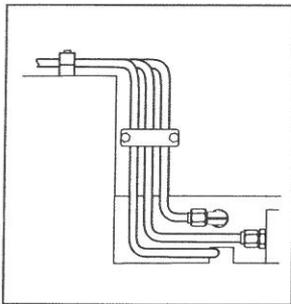

Fig.22 - Correct
**Have a neat appearance and allow for easy trouble - shooting, maintenance and repair.** (See Figures 22 and 23.)